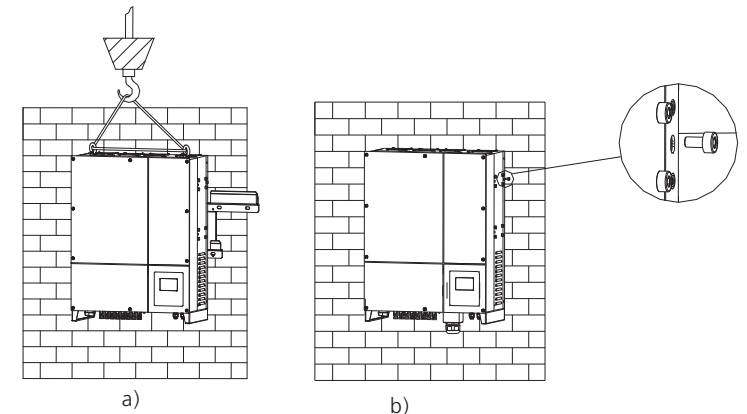

Fig 5.5
- Rise up the Growatt TL3 a little higher than the bracket. Considering the weight of Growatt TL3, you need to hang on the inverter. During the process please maintain the balance of the Growatt TL3. Please reference in Fig 5.5(a).
- Installed one M6*10 screw at each side of inverter to reliable fixed it on the wall. Please reference in Fig 5.5(b).